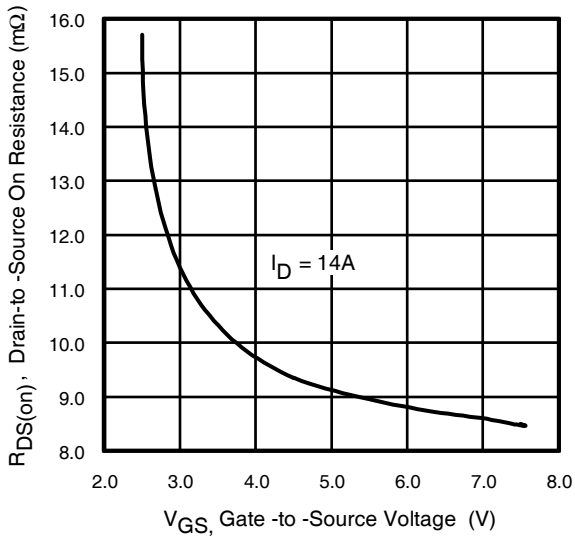
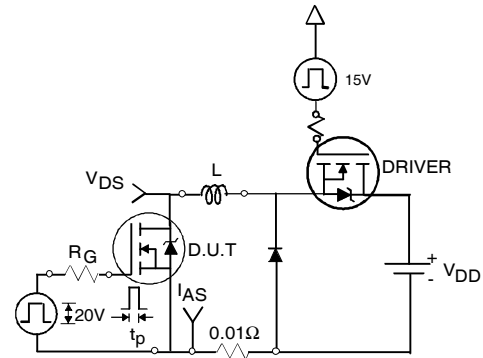

Fig 12. Typical On-Resistance Vs. Gate Voltage
Fig 16c. Unclamped Inductive Test Circuit
| I _{AR} | Avalanche Current ① | See Fig.16c, 16d, 19, 20 | A |
- ① Repetitive rating; pulse width limited by max. junction temperature.
- ② Pulse width $\leq 400\mu s$; duty cycle $\leq 2\%$.
- ③ Surface mounted on 1 in square Cu board.
- ④ Starting $T_J = 25^\circ\text{C}$, $L = 2.3mH$, $R_G = 25\Omega$, $I_{AS} = 14A$. (See Figure 12).
- ⑤ $I_{SD} \leq 14A$, $di/dt \leq 140A/\mu s$, $V_{DD} \leq V_{(BR)DSS}$, $T_J \leq 150^\circ\text{C}$.
- ⑥ Limited by T_{Jmax} , see Fig.16c, 16d, 19, 20 for typical repetitive avalanche performance.